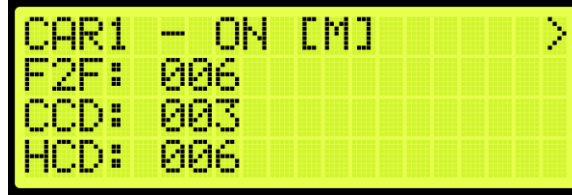

Figure 372: Dispatching Timers Status
12. From the Dispatching Timers Status (See Figure 372), press the right button.
12. From the Dispatching Timers Status (See Figure 372), press the right button..